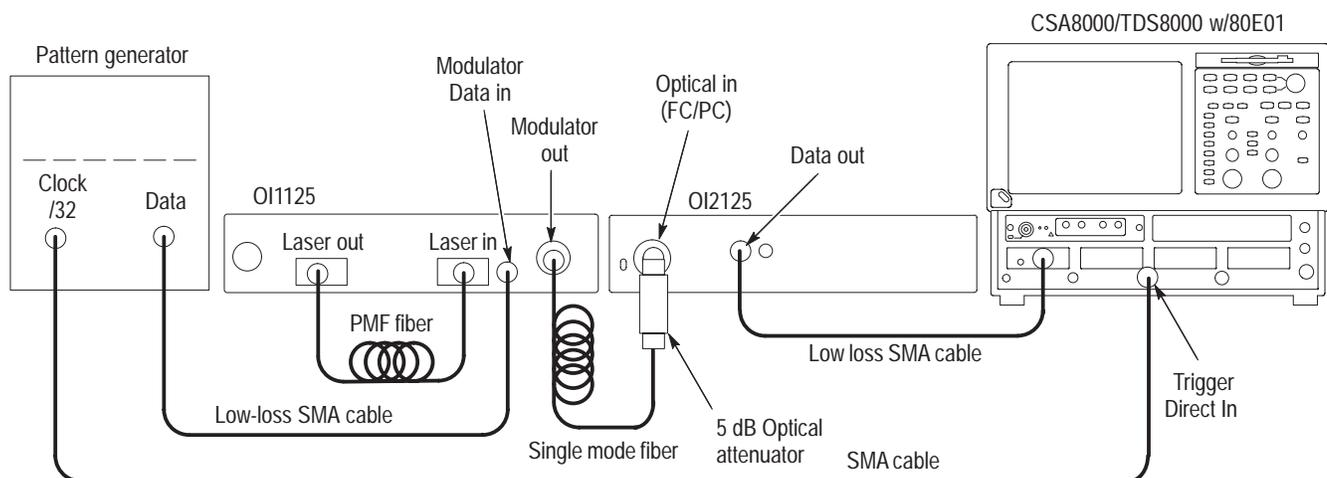

Figure 2: Functional test setup
To perform a functional check of the OI2125 O/E Receiver, you must connect a setup as shown in Figure 2. This setup creates an optical data source by combining a pattern generator with an electrical-to-optical transmitter (with an internal laser source). This optical data source is fed into the optical input of the receiver, and the converted data output is displayed as an electrical eye pattern on the oscilloscope. This is the method that is used in the *Eye Pattern Test Matrix* on page 45 of the *Performance Verification* procedures.
1. Connect the test setup as shown in Figure 2, and power on the equipment.